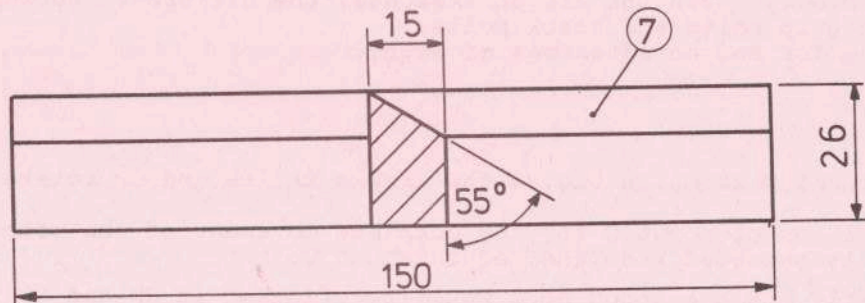

Fig. 1/A. For 1/A.
1. The detailed parts of a Tool Post assembly are shown in Fig. 1.
- (b) The outline of a packing strip is shown in Fig. 1/A. With the aid of brief notes, and a separate sketch, show how the strip is assembled, adjusted and locked in the toolpost slide.